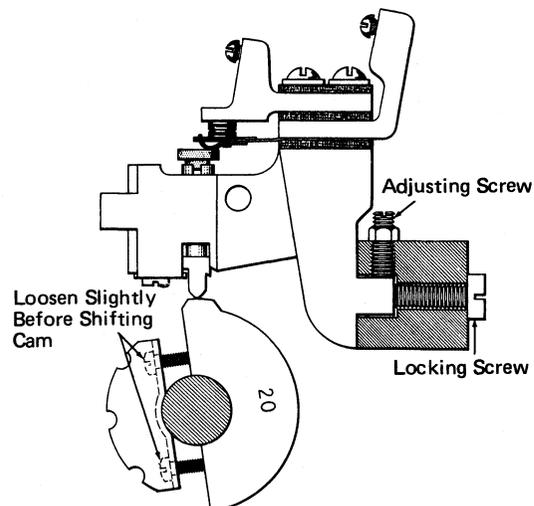

Figure 3-10. Plunger Circuit Breaker—Adjustments 4 and 5
lobe and the contact points just closed (Figure 3-10), and advance the adjusting screw one-half turn to obtain a .010-inch to .015-inch additional movement of the plunger. The total rise from the low dwell to the high dwell of the cam is .065-inch. With the air gap set for .015-inch to .018-inch and the contact assembly correctly located on the mounting bar, the clearance between the cam plunger and the low dwell should not be greater than .018-inch. This may be checked by inserting an .018-inch gage between the low dwell of the cam and the plunger and observing any perceptible movement of the contact strap. This indicates that the additional travel of the plunger, after the contact is closed, is sufficient to compress the plunger spring and provide good contact tension.
5. To adjust the make time of the contact, loosen the screws holding the cam to the shaft until the cam is just snug on the shaft (Figure 3-10). Turn the machine to the index point corresponding with the make time of the cam. Move the cam on the shaft in the direction of rotation until the contact just closes. The machine may now be turned to a point where the cam holding screws can be tightened. The circuit breaker cam clamp is provided with notches and accurate adjustment of the cam may be obtained by tapping lightly against the notch with a screwdriver.